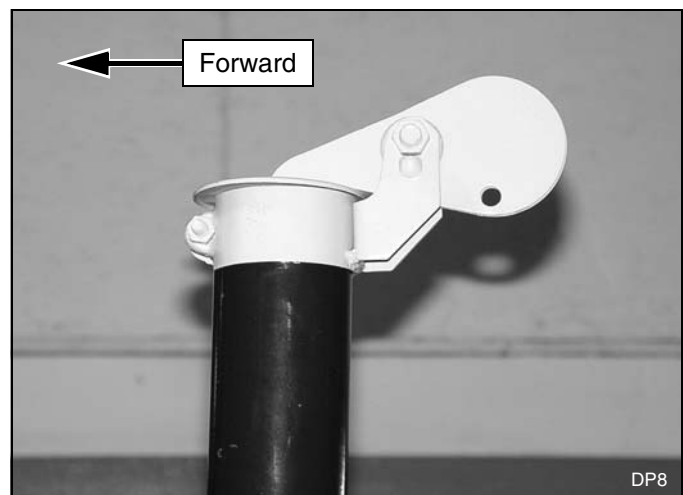

Figure 5. Weather Cap Installed
4. Attach weather cap to the top of the exhaust pipe with supplied hardware. Position cap hinge to the rear. See Figure 5. Weather cap is included in the loader mount kit.
These set up instructions are for operating the 1020, 1027 loader using the tractor hydraulic remote control levers. To use this hydraulic connection the tractor must be equipped with either two hydraulic levers or a joystick control and four tractor hydraulic couplers as shown (Figure 5).